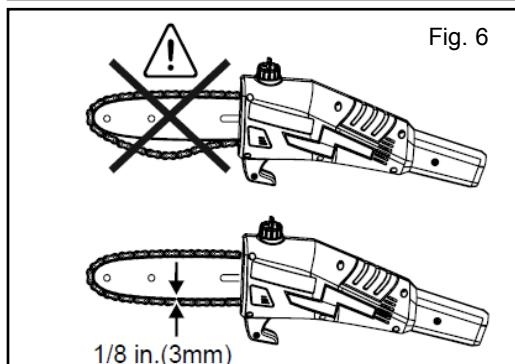

Fig. 6
**NOTE:** The cutting chain must not sag, however, it should be possible to pull it about 1/8 in. (3mm) away from the bar (Fig. 6).